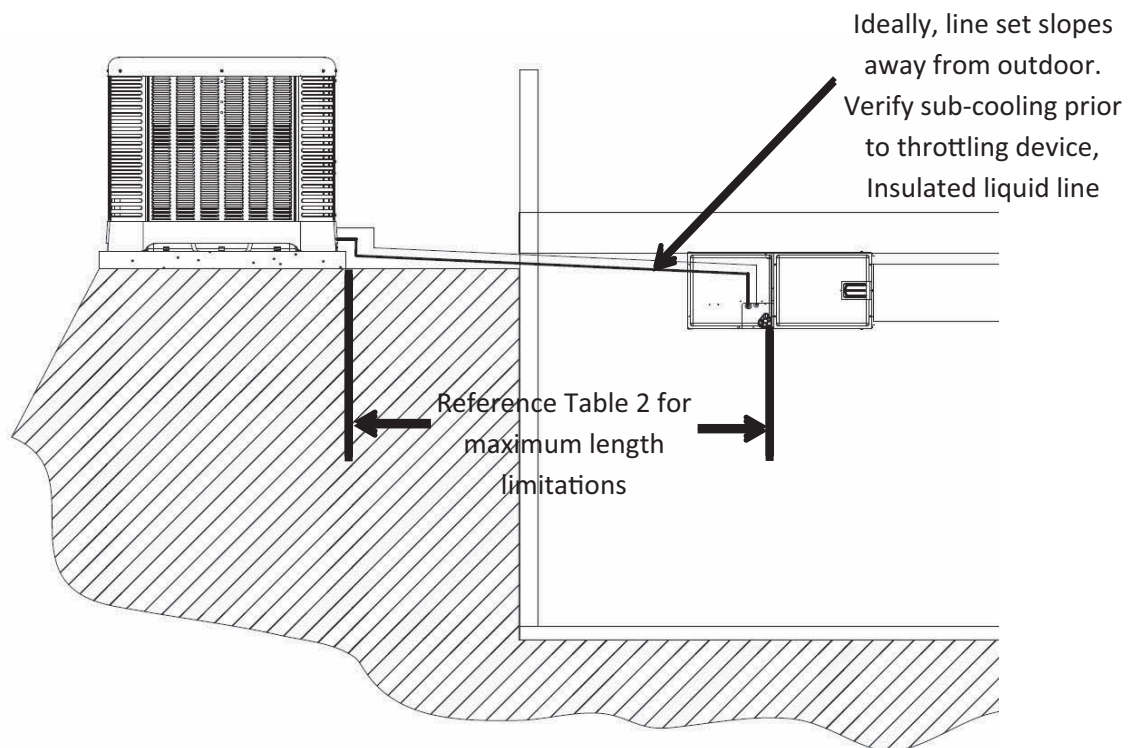

Figure 3
- Inverted vapor-line trap (Reference Figure 3)